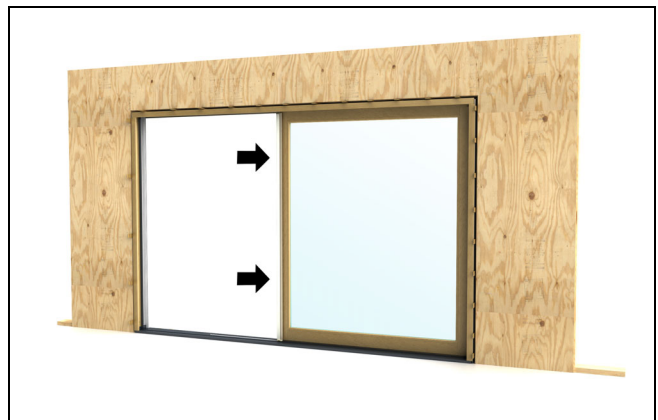

Figure 127
5. Slide panel to opposite jamb and repeat step 3. See figure 127.